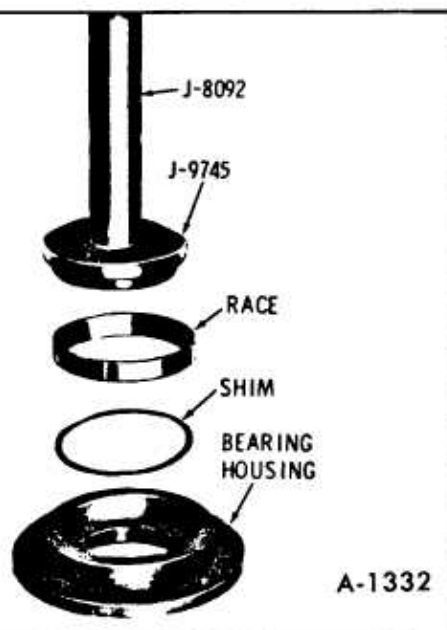

Figure 44—Installing Pinion Rear Bearing Outer Race
6. Position shim into bearing housing and install pinion rear bearing outer race as shown in Figure 44.